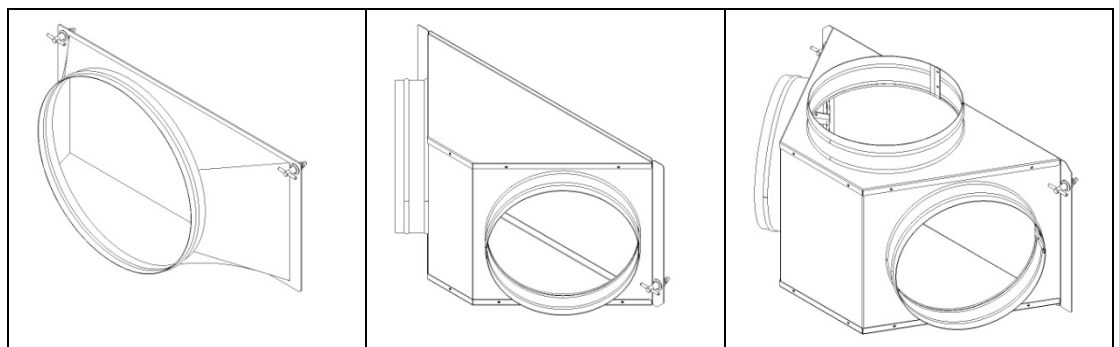

Fig. 3.8.1
- Single, double and triple air outlets are available as accessories (not included, to be purchased separately, Fig. 3.8.1).